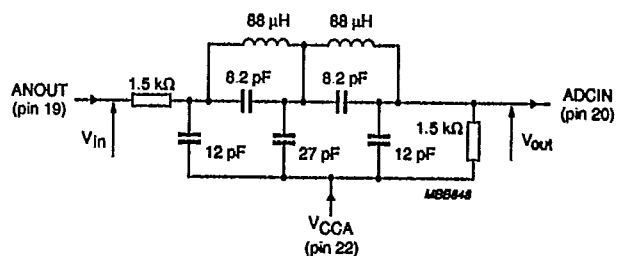

Fig.12 Example of lowpass filter for Y and C signals.
- (1) It is recommended to decouple V_{CCO} through a $22\ \Omega$ resistor especially when the output data of TDA8709 interfaces with a capacitive CMOS load device.
- (2) See Figs 12 and 13 for filter examples.
Note to figures 12 and 13